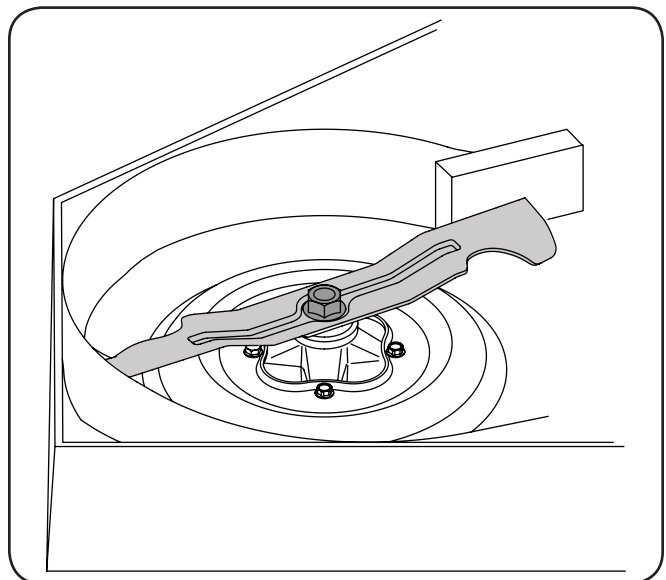

Figure 7-6
- Wrap a rag around one end of the blade and grasp it to prevent it from turning, or secure the blade by placing a block of wood between the blade and the deck housing. See Fig. 7-6.